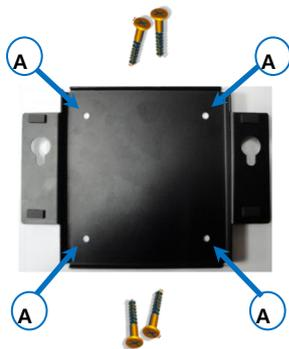

Figure 5-3. Drill mounting screws to the holes
Step 5. Put the wall-mount bracket again on the wall. As shown from the Figure 5-3, drill and tighten four mounting screws into the plastic anchor bolts through the bracket holes while putting it on the wall.